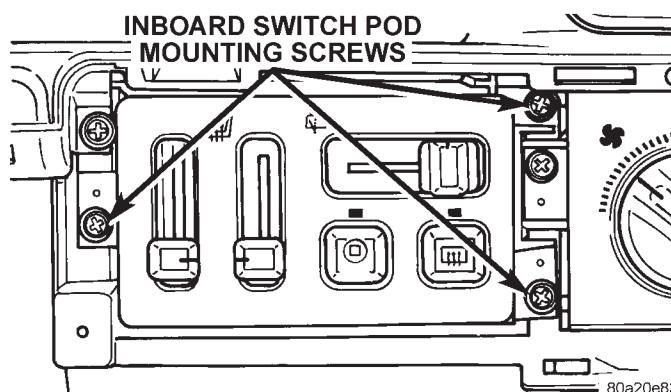

Fig. 10 Inboard Switch Pod Remove/Install
- (1) Disconnect and isolate the battery negative cable.
- (2) Remove the inboard switch pod bezel as described in this group.
- (3) Remove the three screws that secure the inboard switch pod to the instrument panel (Fig. 10).